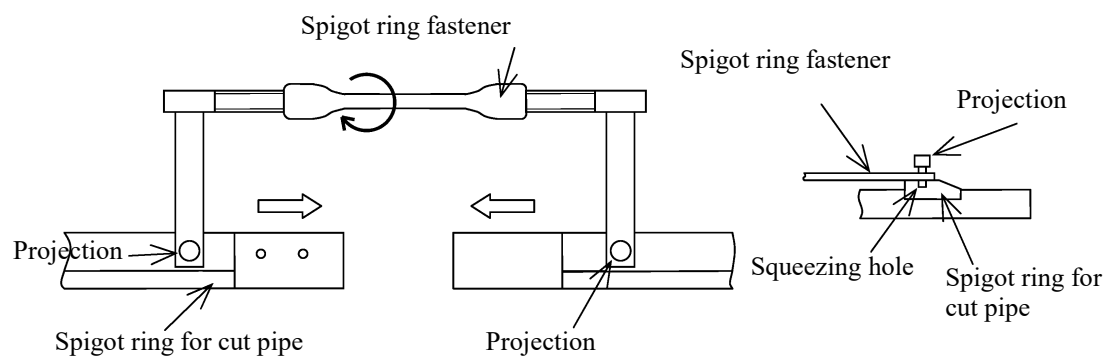

Figure-40 Spigot ring fastener
- (1) Confirm that there are no foreign materials such as sand in the groove of the spigot.
- (2) Put a spigot ring in the groove on the spigot. Using a spigot ring fastener, make the spigot ring fixed in the groove. (See Figure-40.)